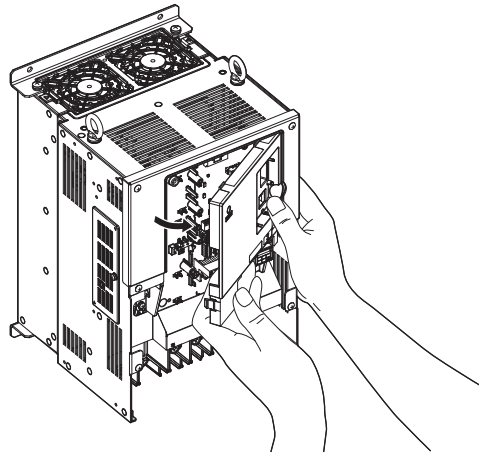

Figure 20 Remove the Front Cover (Models CIMR-LU2A0085 to 2A0415, 4A0045 to 4A0605, and 5A0032 to 5A0200)
4. Unhook the left side of the front cover then swing the left side towards you as shown in Figure 20 until the cover comes off.